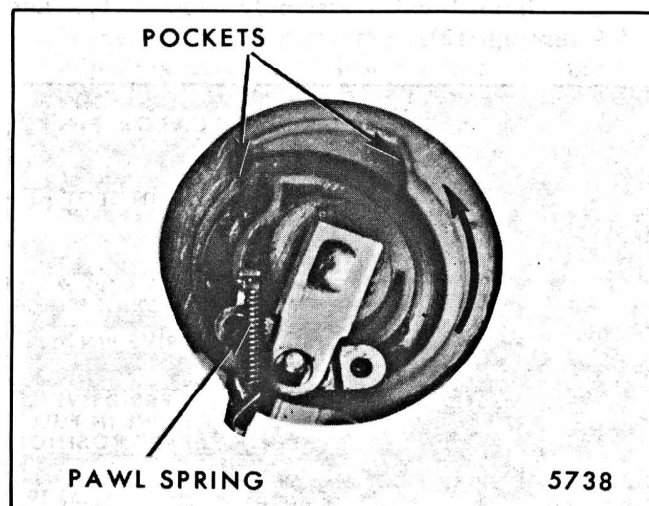

Fig. 2-109-Drive and Lock Pawl Guide Pin Pockets
3. Holding the gear, manually rotate the drive plate in the direction of the arrow until the drive and lock pawl guide pins fit into the gear pockets (Fig. 2-109).
4. Reinstall pawl spring between lock and drive pawls (Fig. 2-109).